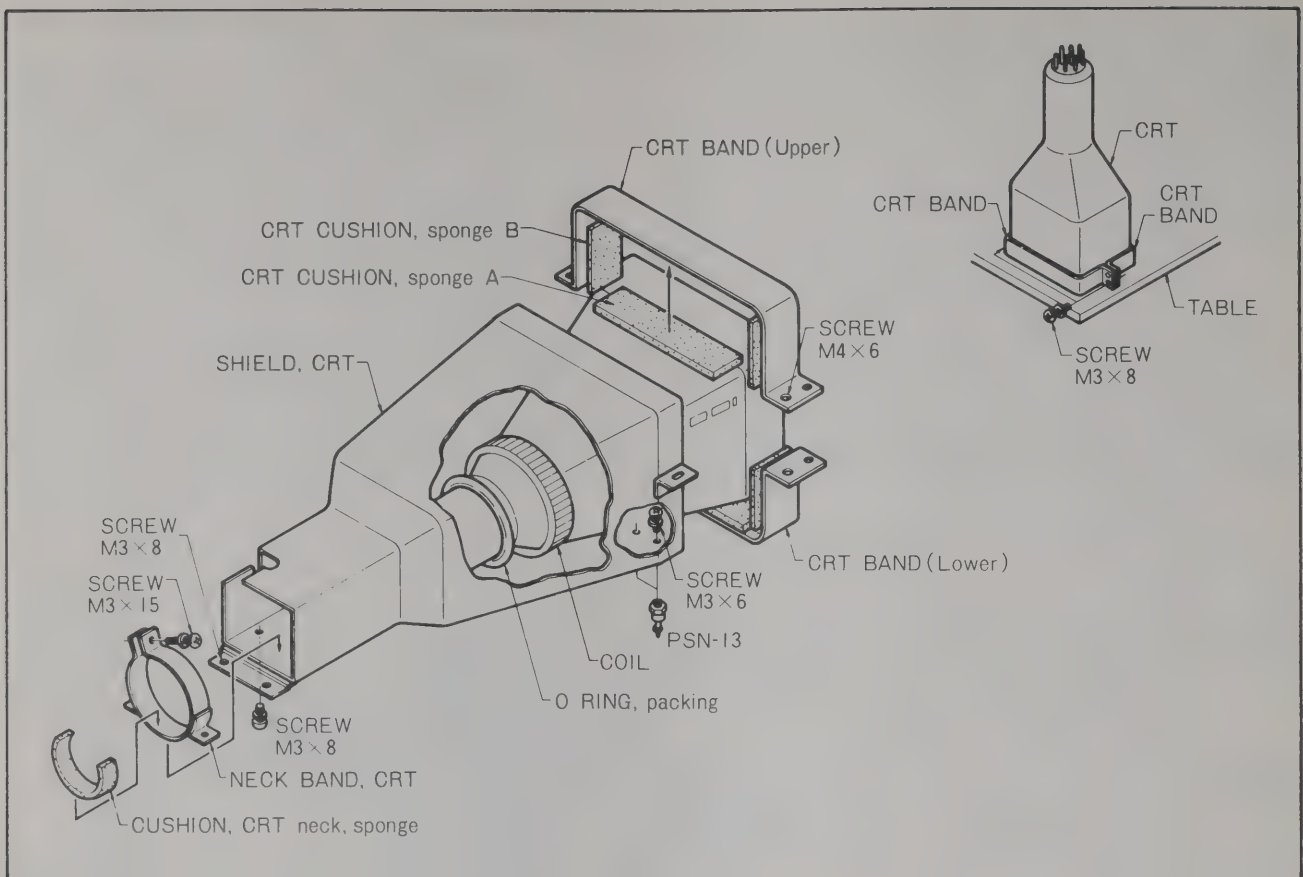

Figure 5.3 CRT Assembly Diagram
- e. Loosen the four Phillips screws for the CRT band (marked 2 in Figure 5.2). For additional information see Figure 5.3.